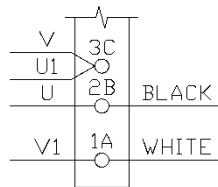

Figure 3-10 230V Transformer Primary
- 3.5.9.1 Ensure the control transformer's primary winding is wired appropriate for the input power supply voltage. See Figures 3-10 or 3-11.